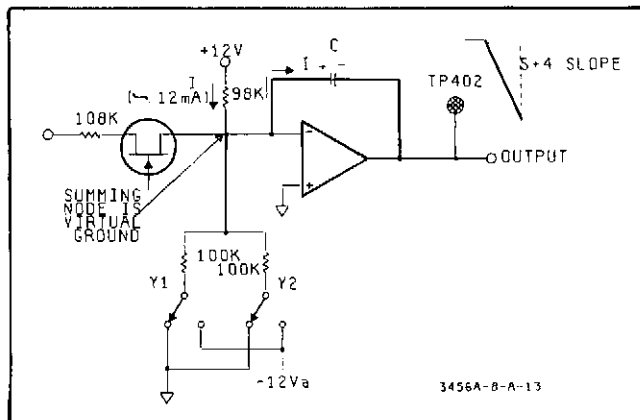

Figure 8-13. Simplified Schematic Of S+4 Slope Generation Circuit.
8-61. **S + 4 and S - 4 Slope Generation.** Figures 8-13 and 8-14 are simplified illustrations that show the slope generation concept used by the 3456A. The lower ends of both Y1 and Y2 circuit paths are switched to ground to generate an S + 4 slope (see Figure 8-13). For this condition, there is no current flow between the summing node (virtual ground) and the grounded Y1/Y2 circuit paths. Current (I) from the +12 V reference supply flows through the summing node into the integrating capacitor (note polarity of capacitor charge). This generates the negative going ramp (S + 4 slope) shown at the output of the integrator.